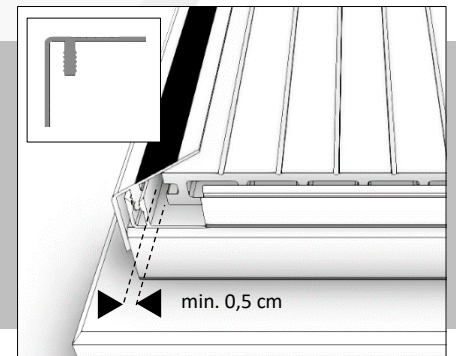

FIG. 13
- Finally, after all decking boards have been mounted, the aluminium corner and transition profiles and / or composite corner profiles can be slid into the aluminium bottom profiles. Keep in mind there should be a minimum space of 0,5 cm between the decking boards and the corner and transition profiles (Fig. 13).